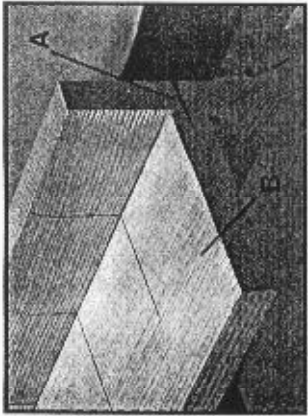

Fig. 9
2. Mark centerline of joint on workpiece (A) Fig. 9.
3. Clamp a straight edge to workpiece (A) Fig. 9, $\frac{3}{8}$ " back from the joint centerline (as marked in Step 2). Clamp workpiece securely.
4. Position machine to workpiece with bottom of base against straight edge and guide notch (C) Fig. 9, aligned with a groove centerline. Apply light forward pressure to bring front of machine in contact with workpiece.
8. Repeat steps 4 through 7 until all the grooves for workpiece (A) Fig. 9 are completed, see Fig. 10.
9. Follow steps 2 through 7 of CORNER JOINTS for each groove required in workpiece (B) Fig. 9.